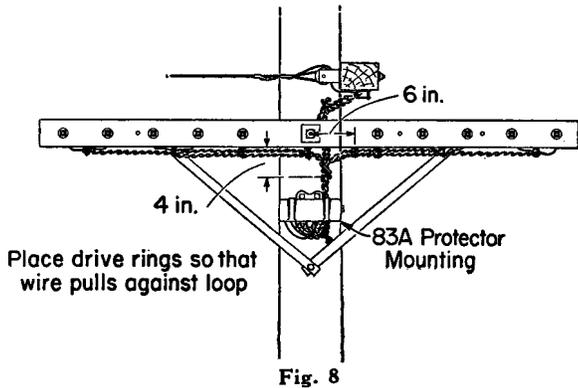

Fig. 8
3.03 As an alternative to the 101A Wire Terminals an 83A Protector Mounting without protector blocks may be used as a connector terminal. See Fig. 8.